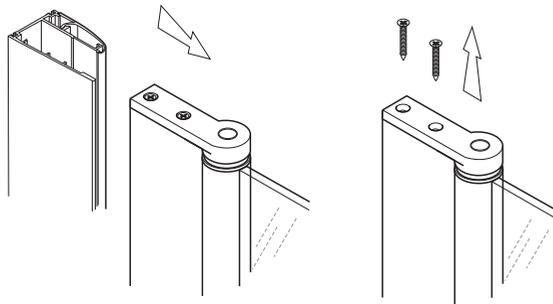

Figure 4a
- a) Remove screws at one end only, Figure 4a.